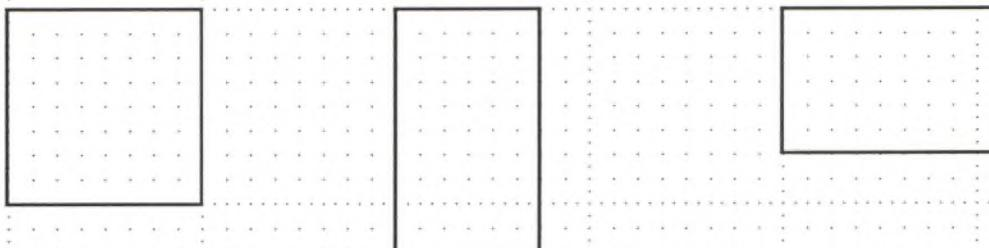

Fig. 3.4 Draw rectangles in scale.
3. Use the scale to measure on your grid paper. Draw the three rectangles shown in Fig. 3.4, and write down the dimensions of each.